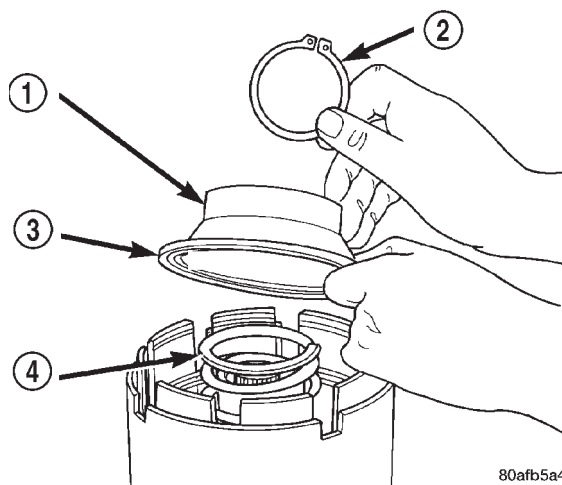

Fig. 263 UD Return Spring and Retainer
- (9) Using Tool 5059A and an arbor press, Install the UD spring retainer and snap ring. (Fig. 263) (Fig. 264) Compress just enough to install snap ring.